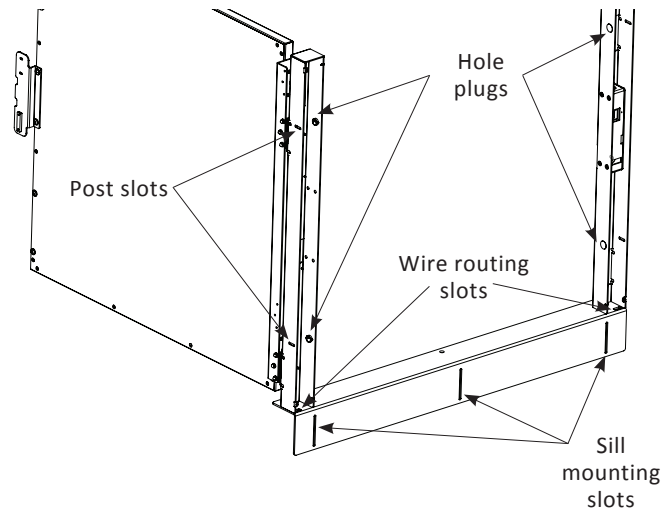

Figure 4-16
2. Create the necessary space below the gate sill so the wire can be routed into the gate post through the wire routing slot. **See Figure 4-16.**